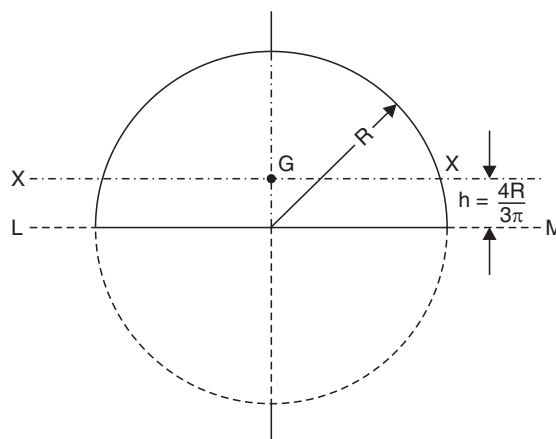

Fig. 5.14
**6. Moment of inertia of a semi-circular lamina.** In Fig. 5.14 is shown a semi-circle of radius  $R$ . Let  $LM$  be the base of the semi-circle.